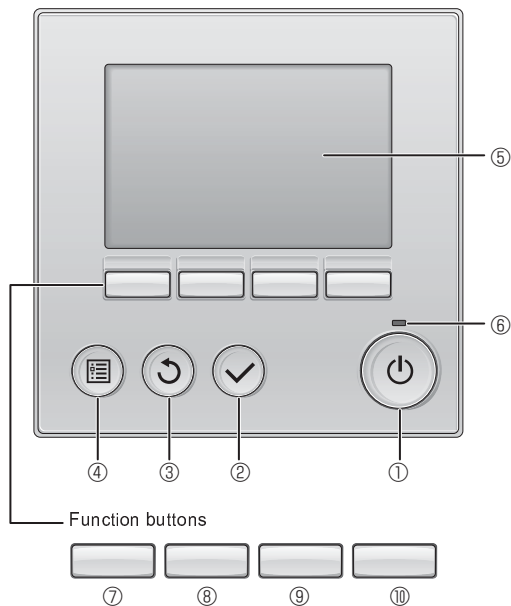

Fig. 5-1
5.2.1. Using wired remote controller (Fig. 5-1)
① [ON/OFF] button